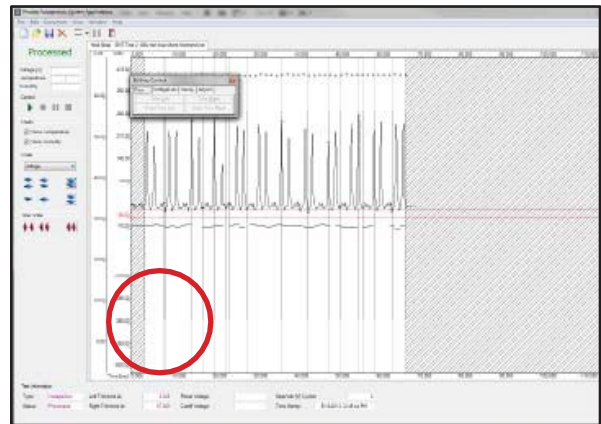

Figure 21: Trim Data Trace to Identify Range of Minimum & Maximum Peaks to be used for Analysis and reporting.
1. Trim unwanted data from beginning or ending traces by using the **Edit** menu and click on **Trimming...** A floating window will open (Figure 21).
- a. Position the **Left trim** point to define a starting point for the analysis. It should represent an initial **Minimum** or **Maximum** value. Referring to Figure 21, the **Left trim** cursor is placed before a **Minimum** peak as shown by the circle.
- b. Position the **Right trim** point to define the ending point of the analysis. It should represent a final **Minimum** or **Maximum** value. Referring to Figure 21, the **Right trim** cursor is placed just after a **Maximum** peak as shown by the circle at the right of the figure.